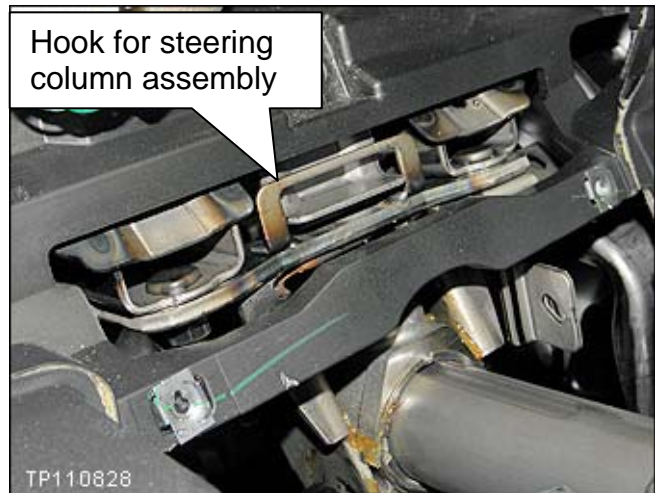

Figure 21
- When the mounting bolts are removed, the steering column assembly will be supported by the hook shown in Figure 21.